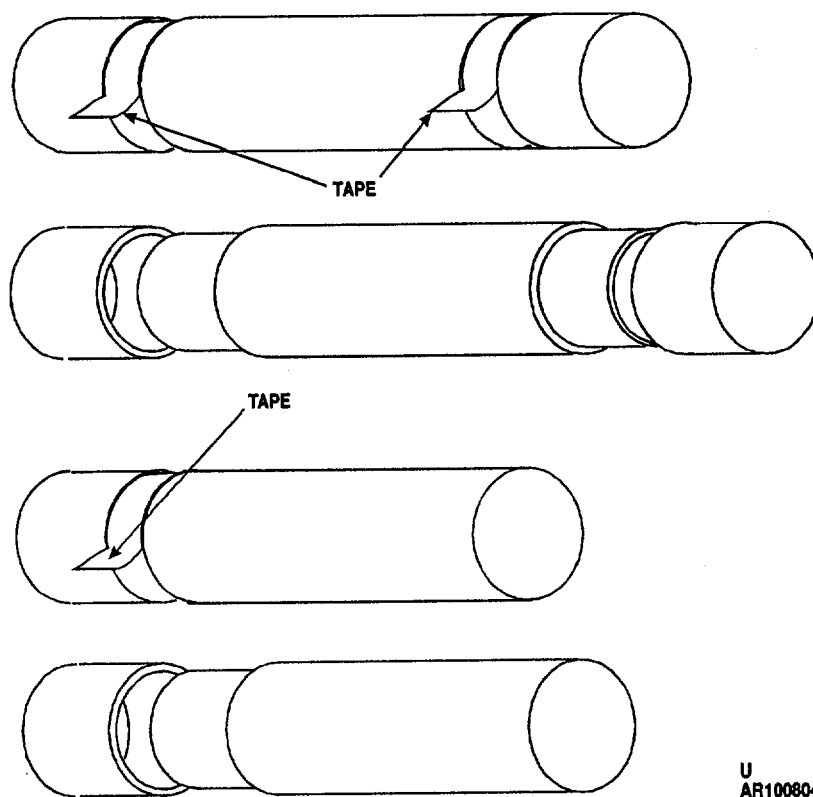

Figure 3-3. Typical fiber containers.
- (3) Cut lead seal wire with pliers and remove.
- (4) Turn catch and open hasp.
- (5) Lift box top to open.
- (6) Remove top padding/filler (if any) from box.
- (7) Remove inner pack(s). Fiber Containers (fig. 3-3).